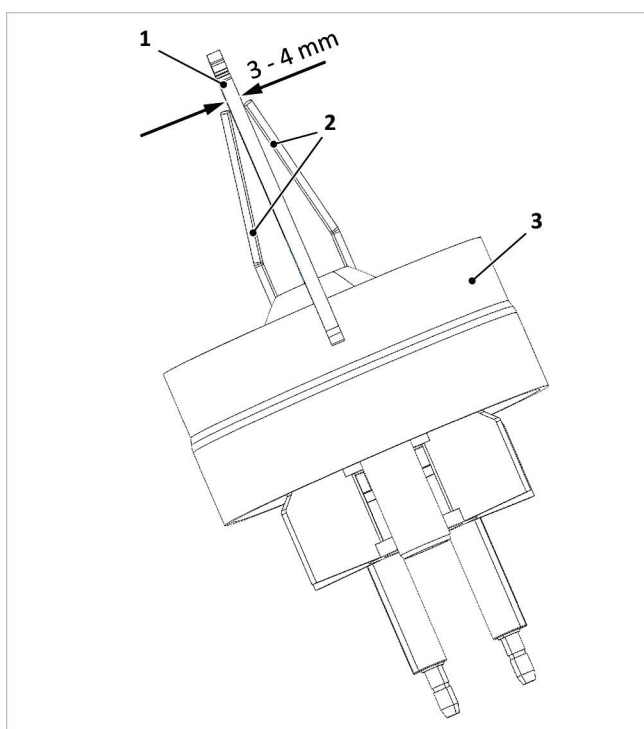

Fig. 119: Checking the ignition electrode gaps
3. Check the electrode gaps as shown in → fig. 119 and correct by carefully bending them, if necessary.